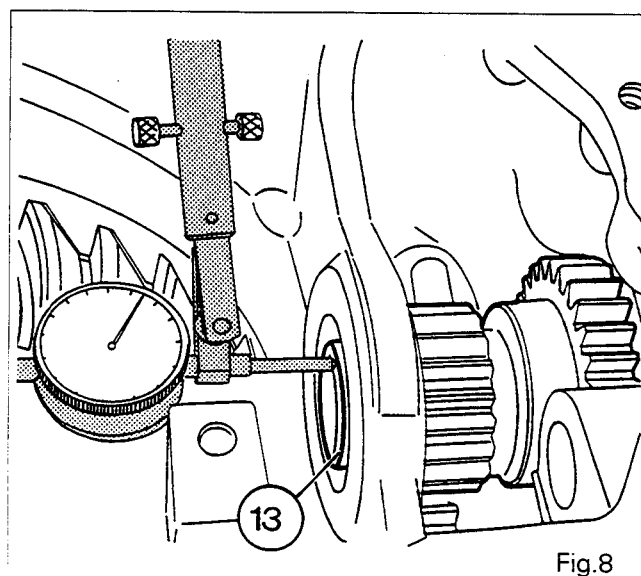

Fig. 8
38. Place the tip of the dial gauge against the end of the pinion (13) (Fig. 8).
39. Pull on the pinion, turning it alternately from right to left, so as to compress the deflector (15), to seat the bearing cone (7) correctly in the cup (8).
41. Push the pinion, turning it alternately from right to left, to seat the bearing cone (4) correctly in the cup (3).
43. Remove the support (10) and withdraw the cup (8) and piston (9).
44. Place the shims [11] selected in operation 42 in the support (10).